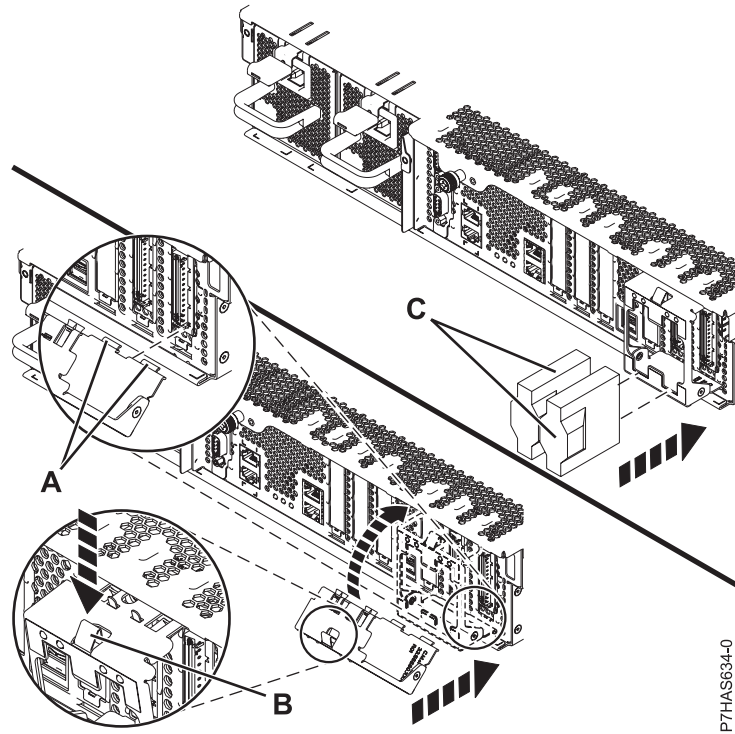

Figure 4. Installing the cable retention bracket installation
16. If the cable retention bracket (A), shown in Figure 4 on page 5 is provided, complete the following steps:
- a. Tilt the cable retention bracket (A) to hook the tab at the bottom of the bracket into the slot in the assembly.
- b. Swing the cable retention bracket toward the chassis and push the bracket fastener (B) into the chassis opening to secure the bracket.
17. From the rear of the system, attach the adapter cables (C).